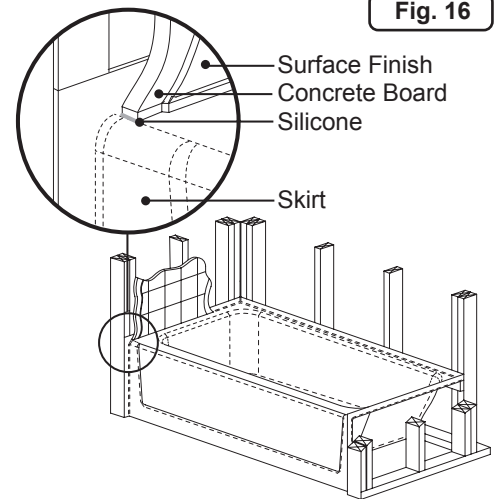

Fig. 16
8. When other than cementitious backer board is to be used, furring strips as thick as nailing flanges are recommended for installation on studs above the installed unit to assure walls will be flush. 100% silicone sealant with mildew resistant properties should be applied between the backer board and horizontal surface of unit (Figure 16). Then finished wall materials can be applied.
10. Caulk around the perimeter of bathtub to seal the space between the rim and the finished deck (Figure 16).